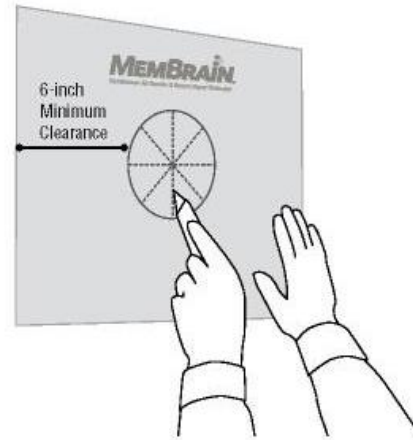

Figure 10: Patch preparation.
Large Circular Penetrations – Figures 10 and 11
- Intersect the circle with four diameter lines. (See Figure 10.)